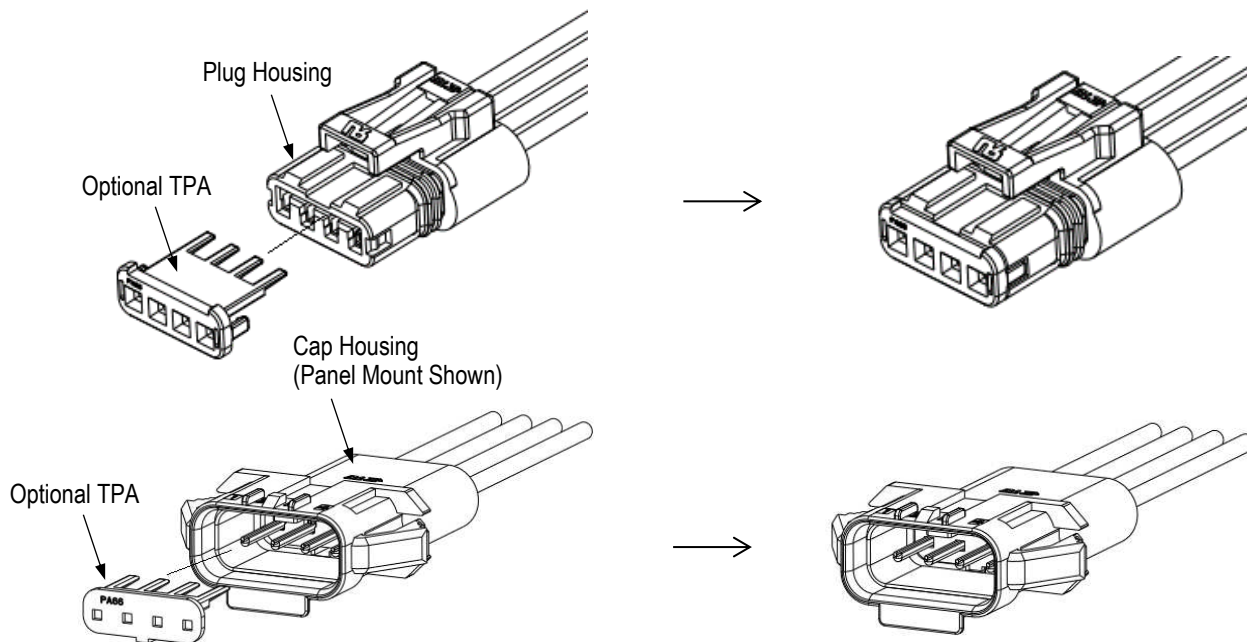

Figure 5
1. Grasp the TPA and push TPA straight into the plug and cap housing from FRONT (there should be an audible click). Refer to Figure 5.